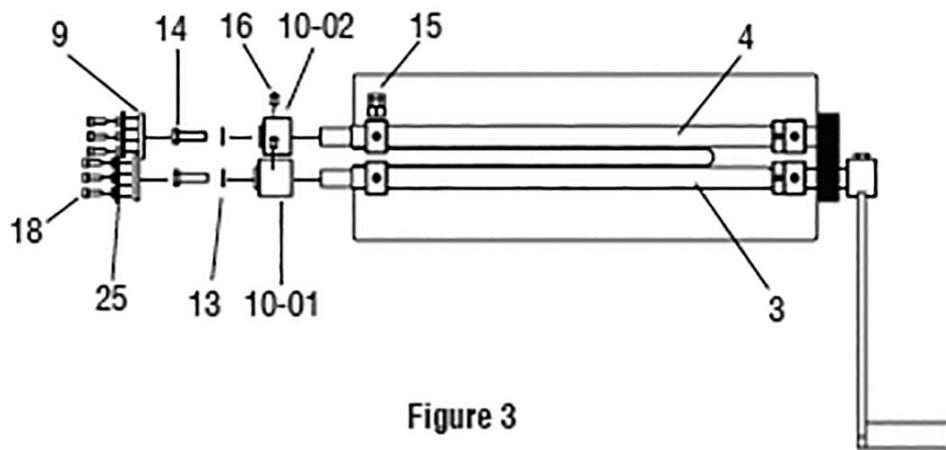

Figure 3
1. Using a wrench, loosen the bolt (15). See Figure 3.
2. Using a hex wrench, remove the eight screws (18) and spring washers (25), securing the Cutting Plates (9) to the Cutting Dies (10-01,10-02). See Figure 3.
3. Remove the Cutting Plates (9).
4. Using a wrench, remove the two bolts (14) securing the Cutting Dies (10-01 and 10-02) to the Driving Shaft (3) and Driving Shaft (4). Remove the washers (13).
5. Using a hex key (27), loosen the screws (16) that lock the Cutting Dies (10-01 and 10-02) onto the rollers. See Figure 3.